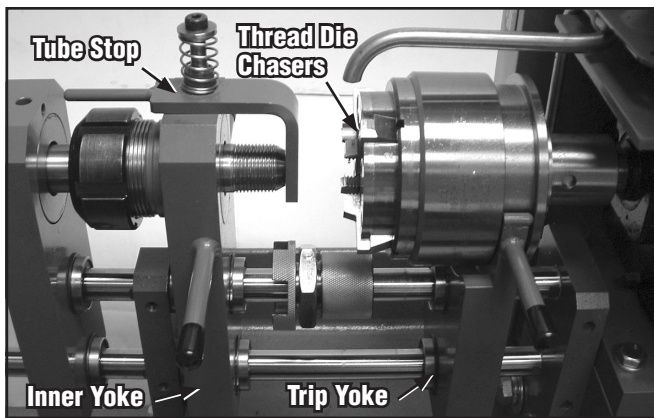

Figure 10
- 5.5.1 Rotate tube-stop 90° to the left by lifting up, rotating and letting down (Figure 10). Insert coned, unthreaded tubing loosely through both collets. Bottom tube end against tube-stop and tighten collet nut on the inner yoke by hand. Then rotate tube-stop back to original position and tighten collet nut on the inner yoke with a spanner wrench. Pull the inner yoke away from the motor and against the frame bracket. Tighten the collet nut on the outer yoke with a spanner wrench.
- 5.15 Rotate tube-stop 90° to the left by lifting up, rotating and letting down (Figure 10). Insert coned, unthreaded tubing loosely through both collets. Bottom tube end against tube stop and tighten collet nut on the inner yoke by hand. Then rotate tube-stop back to original position and tighten collet nut on inner yoke with spanner wrench. Pull the inner yoke away from the motor and against the frame bracket. Tighten the outer collet nut with spanner wrench.